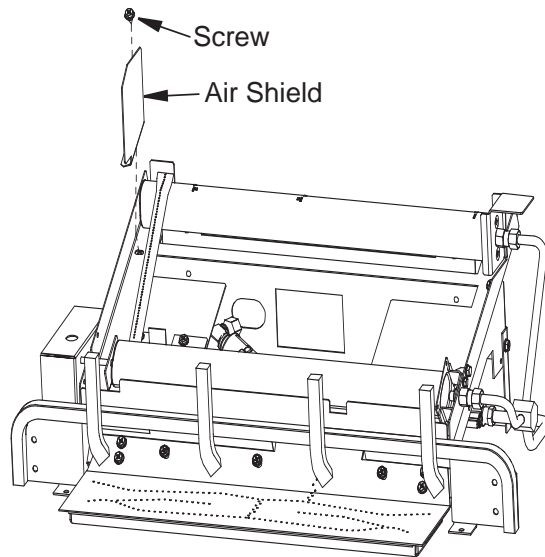

Figure 27 - Removing Air Shield
- Before placing any logs on the chassis you will need to remove the Air Shield located on the left side near the rear burner as shown in **Figure 27**. The Air Shield is held in place with one screw, remove the Air Shield and place the screw back into the hole in the chassis. Place the Air Shield with you owner's manual and keep.